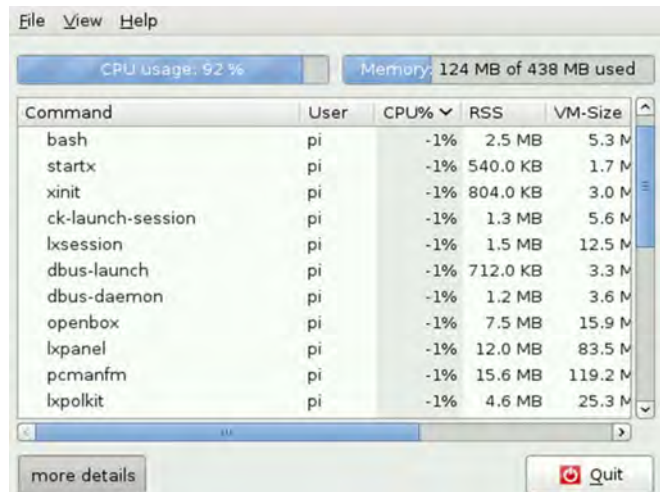

Fig.2.11. Raspbian's Task Manager
*Task Manager* (see Fig.2.11) allows you to monitor running applications/processes and their system resources usage. This can be useful for terminating unresponsive programs or freeing up memory/CPU time by closing unrequired services.